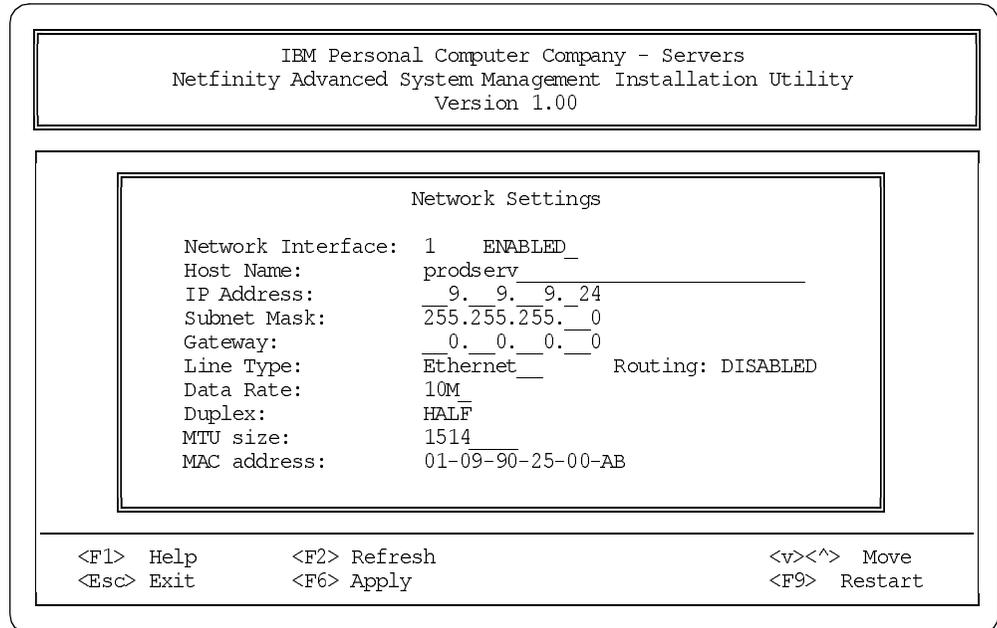

Figure 213. ASM PCI Adapter Network Settings
6. Highlight **Network Settings** and press Enter. Figure 213 appears: